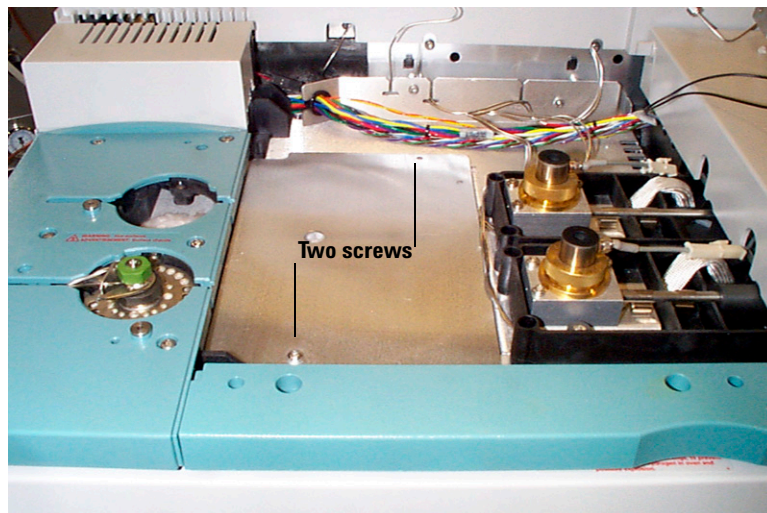

Figure 5 Install valve box blanking plate
- 4 Replace the soft insulation. Install the valve box blanking plate, using one screw at the front and one at the rear to secure it. See Figure 5.